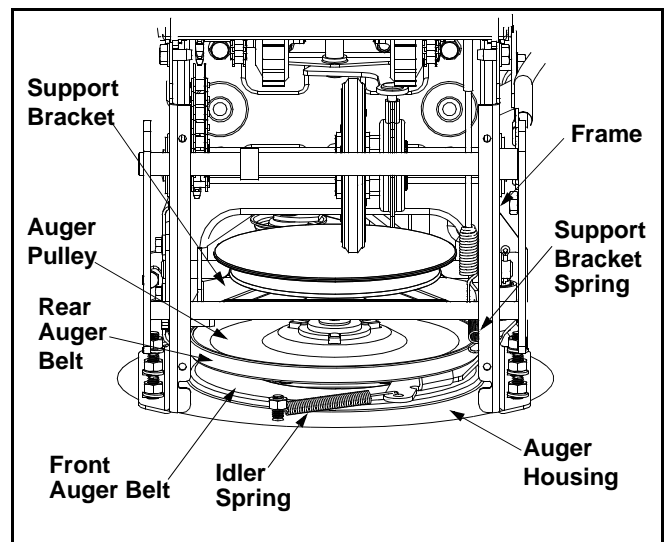

Figure 18
- Unhook the idler spring from the hex bolt on the auger housing. See Figure 18.
- Lift the auger belt from the auger pulley, and slip belt between the support bracket and the auger pulley. Repeat this step for the front auger belt. See Figure 18.